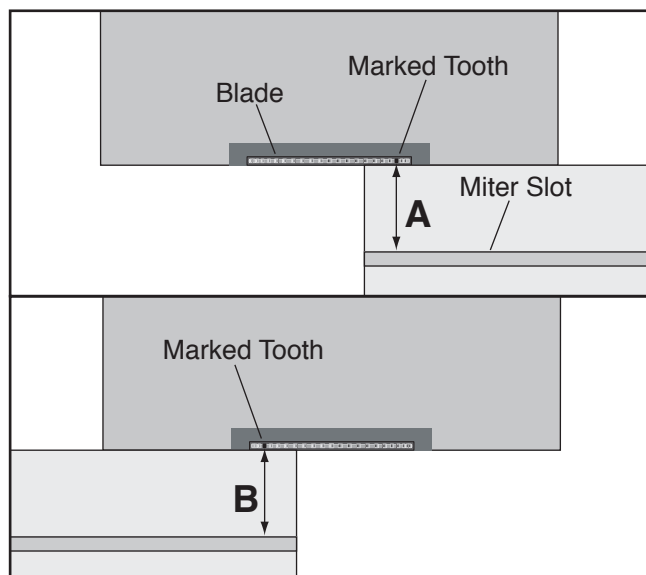

Figure 137. Measuring distance between table and blade.
4. Move the sliding table all the way back, and measure the distance "A" in **Figure 137**, between the marked tooth and the edge of the miter slot.
5. Rotate the blade 180°, move the sliding table all the way forward, and measure the distance between "B" in **Figure 137**.